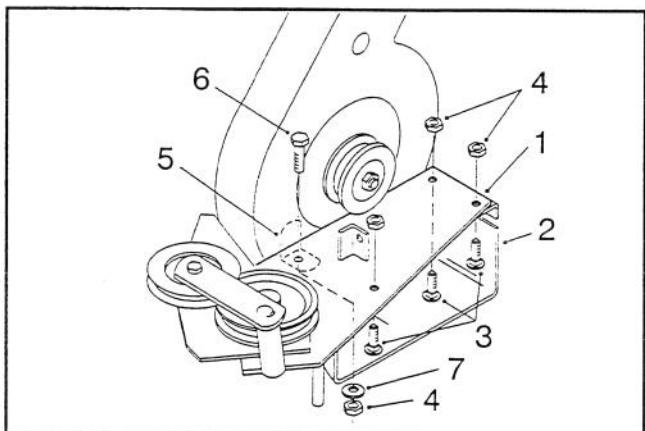

Figure 4
1. Install the blower mounting plate assembly to the blower housing using three 5/16" x 3/4" carriage-head bolts and 5/16" hex-head flange nuts (Fig. 4).
2. Install the L-shaped support bracket inside the blower housing using a 5/16" x 1" hex-head bolt, 5/16" flat washer and 5/16" hex-head flange nut (Fig. 4). Do not tighten the flange nut.
3. Pull the L-shaped support bracket up tight against the inside wall of the blower housing and tighten the flange nut (Fig. 4).